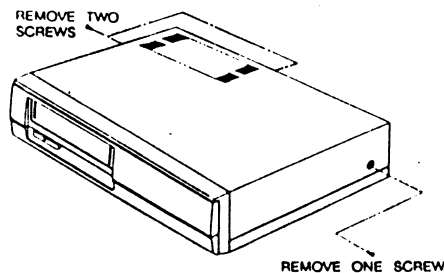
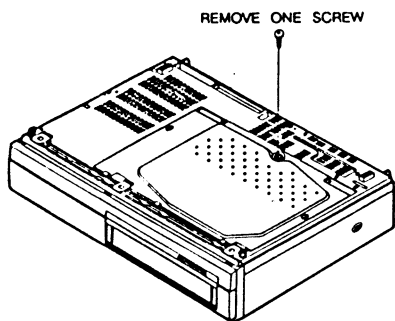
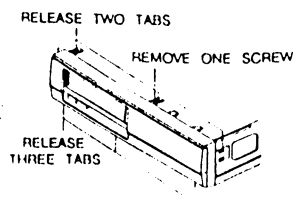

Fig. 1 Top Cabinet Removal
Fig. 2 Bottom Cover Removal
Fig. 3 Front Panel Removal
1. Remove the top cabinet. (Fig.1)
2. Remove one (1) screw from the top of the front panel.
3. Release four (4) tabs from the front panel.
4. Release three (3) tabs from the bottom of the front panel.
1. Follow the procedure for removing top cabinet. (Fig.1)
2. Remove two (2) screws from the frame.
3. Release four (4) tabs from the frame.
4. Disconnect two (2) connectors (CN205, CN206) between the main circuit board and timer circuit board.
1. Follow the procedure for removing the panels. (Figs. 1 and 3)
1. Follow the procedure for removing the panels. (Fig.1 and 3)
2. Release two (2) tabs holding circuit board from the frame.
1. Follow the procedure for removing the top cabinet (Fig.1), bottom cover (Fig.2) and front panel (Fig.3).
2. Remove two (2) screws holding the Pre-Amp from the frame.
3. Disconnect the one (1) connector on the Pre-Amp circuit board.
1. Follow the procedure for removing the top cabinet (Fig.1)
2. Remove the regulator cover and three (3) screws from the frame.
3. Disconnect one (1) connector (CN101) on the main circuit board.
1. Follow the procedure for removing the cover (See Figs. 1 to 3).
3. Remove two (2) screws holding the housing assembly and the Main Base.